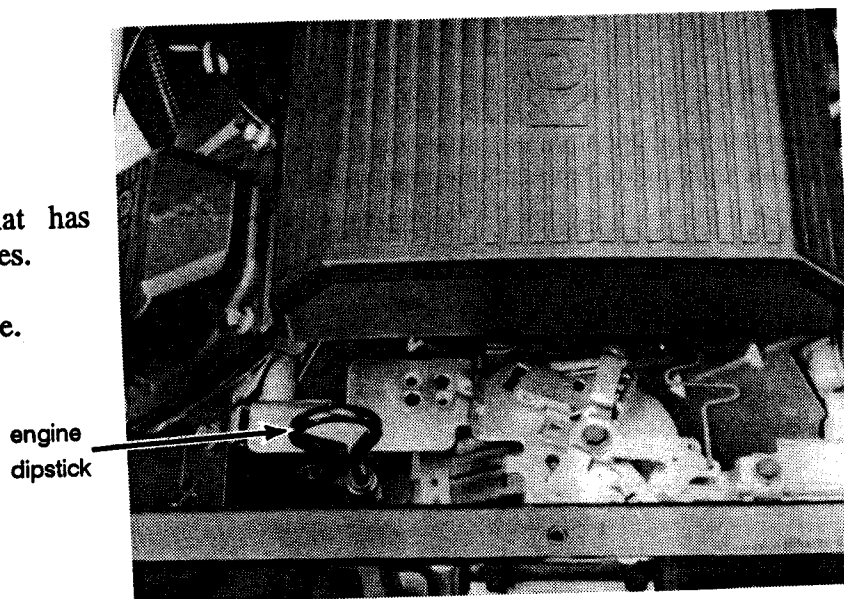

Figure 16. Engine dipstick.
1. Pull dipstick (Refer to Figure 16) completely out of the crankcase. Wipe off oil. Reinsert dipstick completely.